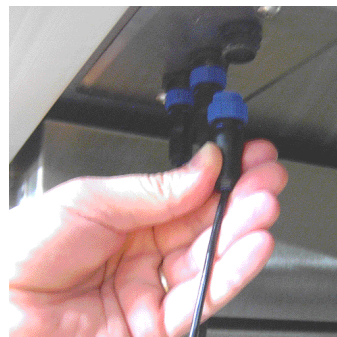

fig. 1
1. Remove probes by turning the circular locking ring which secures these inside the chiller (fig. 1).